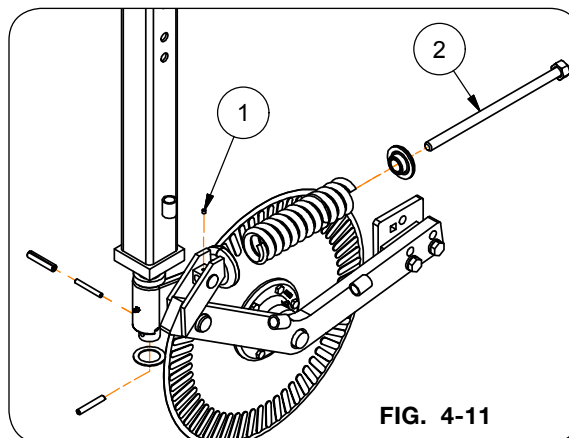

FIG. 4-11
1. Loosen the set screw retaining the spring bolt on the coulter arm (FIG. 4-11).
2. Slowly unscrew the spring bolt which will relieve spring pressure (FIG. 4-11).